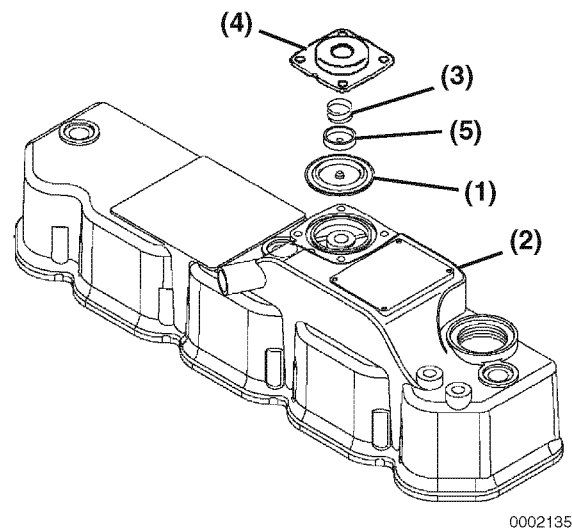

Figure 5-20
The non-turbo TNV engines use a crankcase breather system that has a spring-backed diaphragm (**Figure 5-20, (1)**) in the valve cover (**Figure 5-20, (2)**). When the crankcase pressure reaches a predetermined value, the diaphragm opens a passage that allows crankcase fumes to be routed to the intake manifold.
To inspect the diaphragm and spring (**Figure 5-20, (3)**):
1. Remove the bolts retaining the diaphragm cover (**Figure 5-20, (4)**).
2. Remove the diaphragm cover, spring, diaphragm plate (**Figure 5-20, (5)**) and diaphragm.